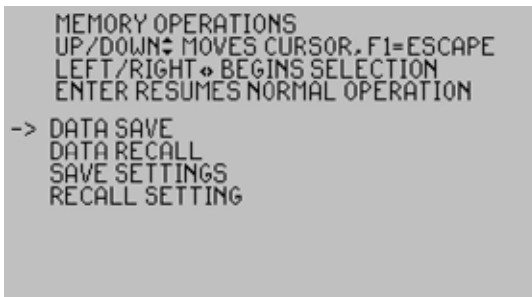

Figure 2-10
Menus for the all three modes are shown in Figure 2-10. Use the **SCALE** Key's ▼▲ arrows to move the cursor the desired menu items and either ► key to activate that item's options or turn the menu item ON.
**NOTE:** DATA RECALL will reset the Echo to all the testing parameters saved with the recalled plot. This will over ride any current settings. If you wish to return to the current settings use the SAVE SETTINGS now and the RECALL SETTING when you are finished with recalled plots. Refer to figure 2-10.